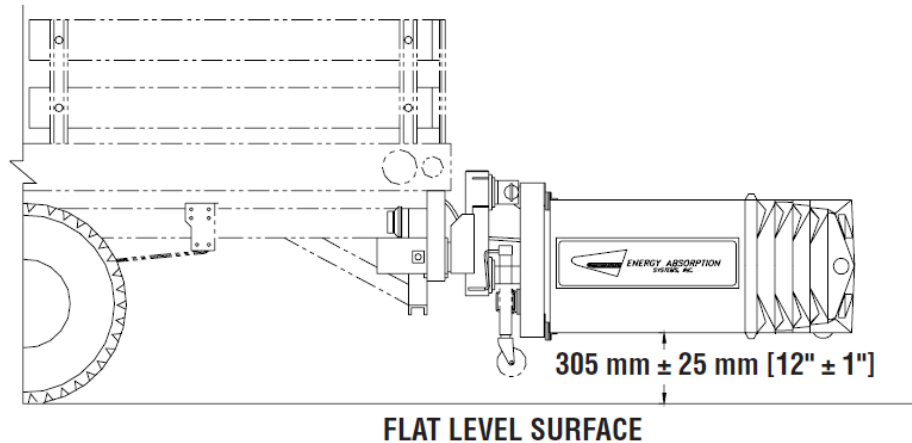

Figure 15
1. Height and Levelness - The height and levelness of the system is important to its impact performance. Check regularly and adjust as necessary: See Figure 15